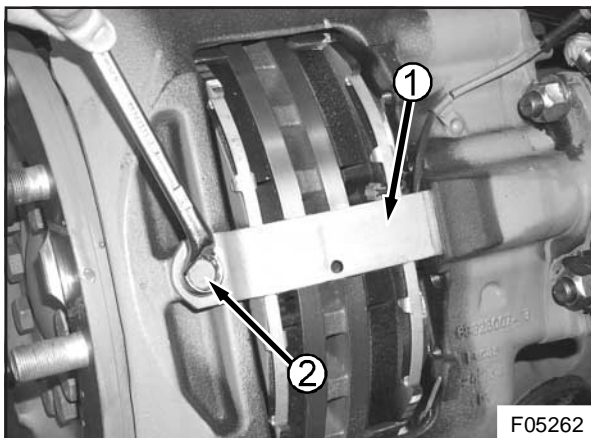

Figure 15 : Pad retaining plate
3. Remove the screw (2, Figure 15) of the pad retaining plate (1, Figure 15).